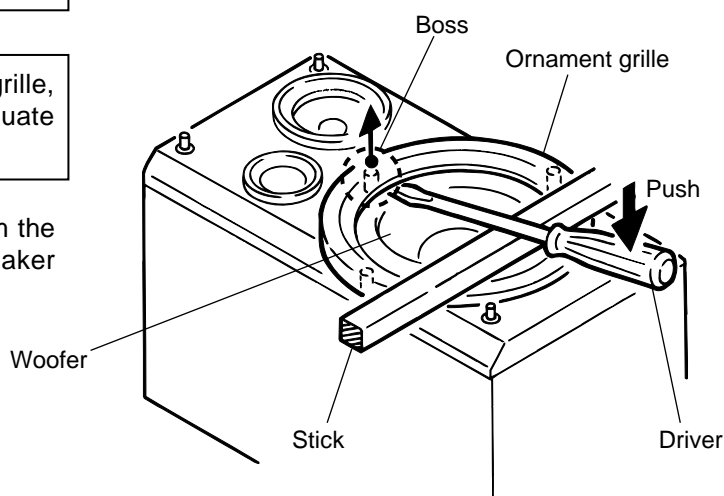

Fig.2
2. Pull out the ornament grille with each boss by means of a lever as shown in Fig.2.